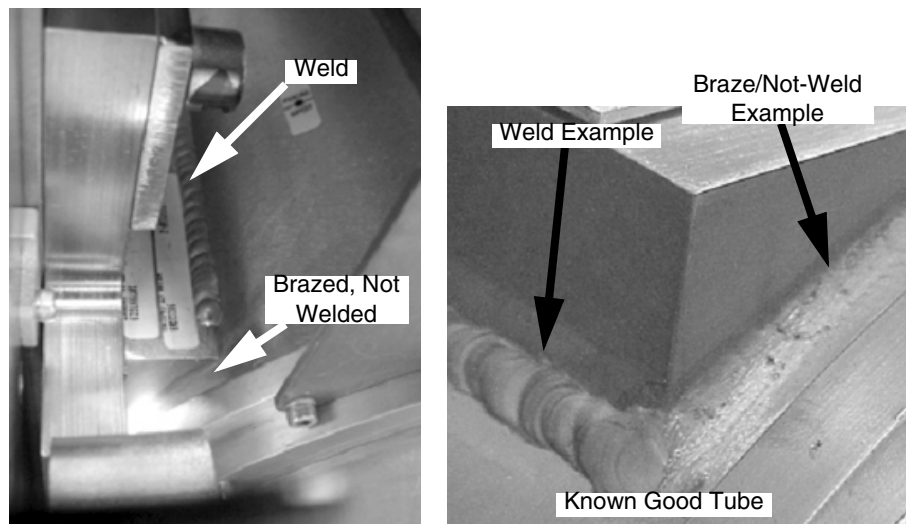

Figure 9 - Weld on one side; Close up of Braze/Not-Weld and Weld (right) - Inspection Passes, No Problem with this tube casing. Go to "FMI Completion."
The photo at the right of Figure 9 shows an example of a Braze that does not look smooth, but is still different from a weld. This is intended to improve proper identification of a weld.
- b.) If the welds are *not* on all sides, as shown in Figure 9, then: